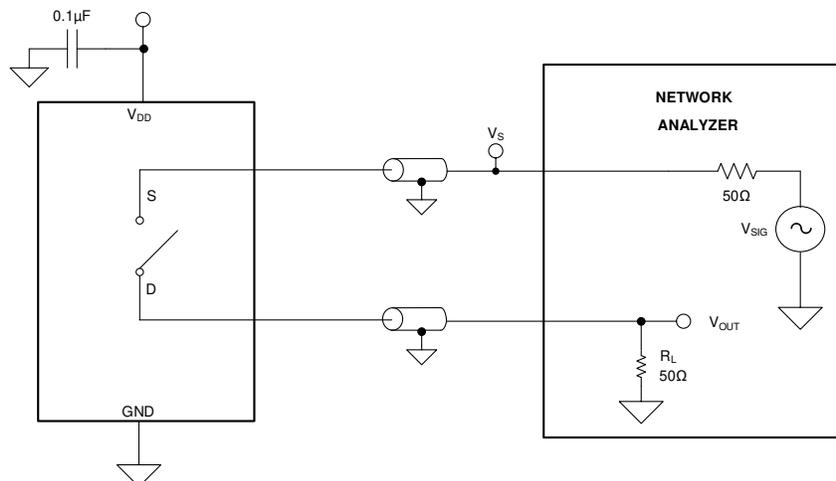

图 7-6. Off Isolation Measurement Setup
Off isolation is defined as the ratio of the signal at the drain pin (D) of the device when a signal is applied to the source pin (S) of an off-channel. The characteristic impedance, Z_0 , for the measurement is 50Ω . 图 7-6 shows the setup used to measure off isolation. Use off isolation equation to compute off isolation.